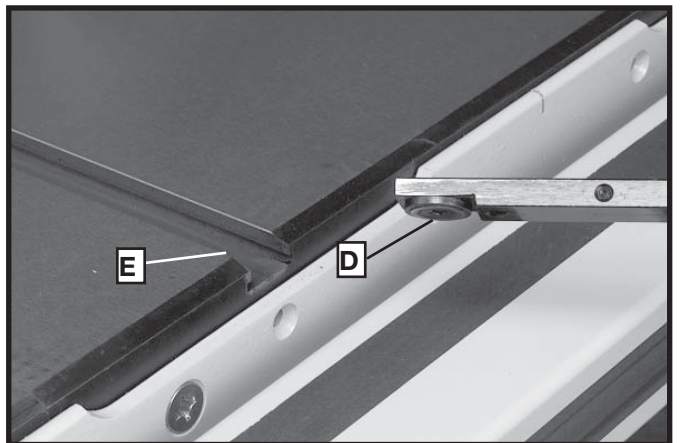

Fig. 64
Insert washer (D) Fig. 64 into the miter gauge slot (E) and slide miter gauge onto saw table.
The miter gauge is equipped with a washer (D) Fig. 64 which fits into the T-Slot groove (E) in the table. This allows the miter gauge to be pulled off the front edge of the table without falling. This allows for a longer cut-off capacity in front of the blade.